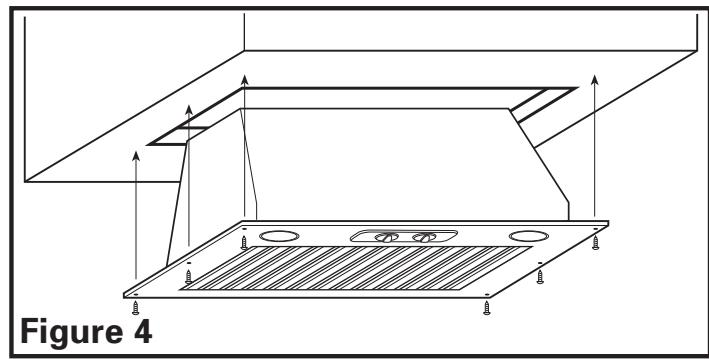

Figure 4
1. Insert the power unit into the hole and secure in place using the six provided mounting screws (Figure 4).